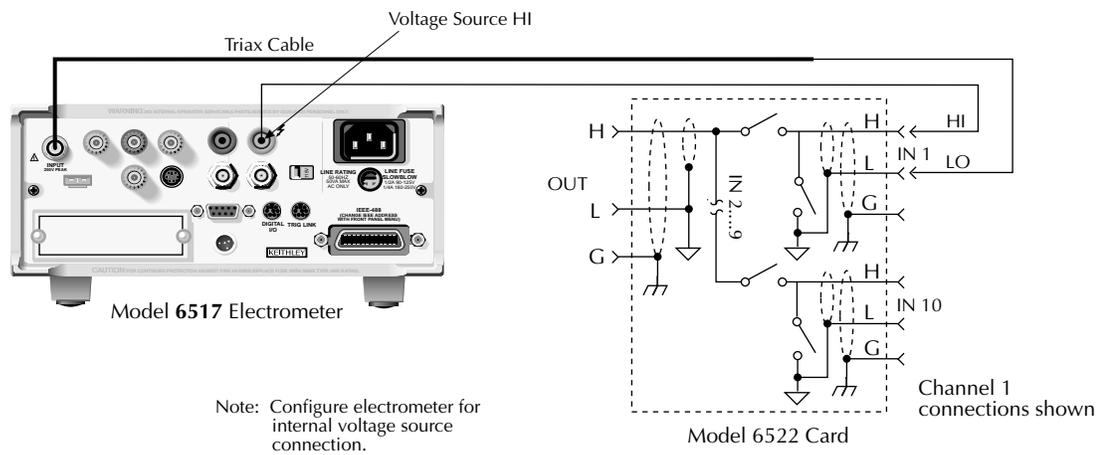

Figure 4-5
4. Connect the Model 6517 to the channel 1 HI and LO input terminals, as shown in Figure 4-5.